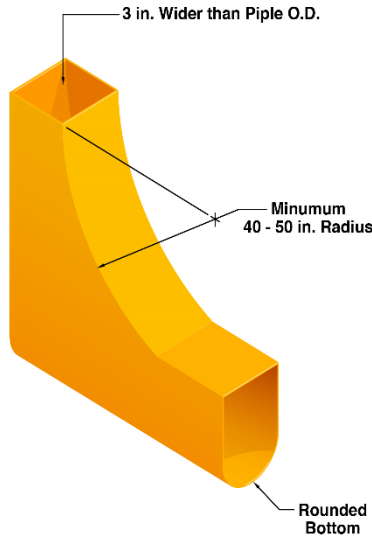

Figure 2: Boot Design Example
The width of the inside of the boot shall be approximately **3" wider** than the outside diameter (OD) of the pipe (Figure 2). Therefore, a boot for 12" Goldflex pipe will be 17.5" wide considering the OD of a 12" pipe is approximately 14.5" (Table 1). The excess width will help aid in initially feeding the pipe through the boot.